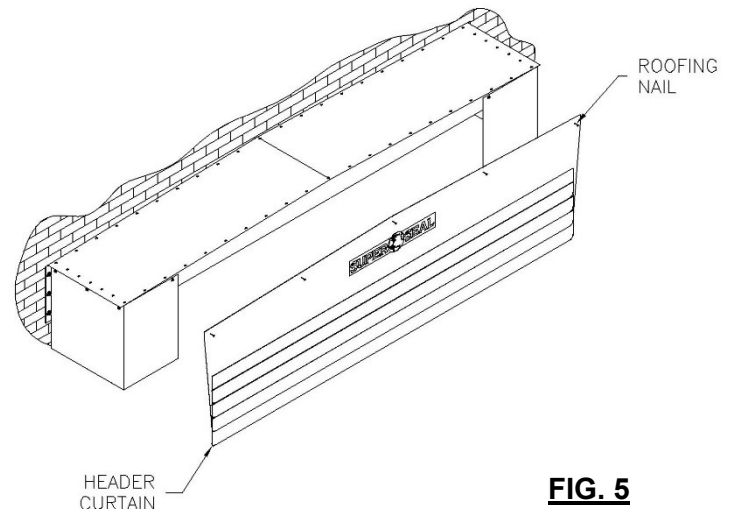

FIG. 5
- ii. Match the top center of header curtain with top of center head frame (Fig. 5).